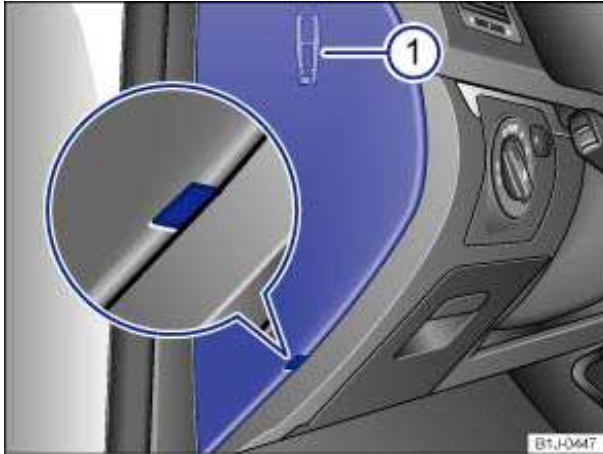

Fig. 191 On the driver side in the instrument panel: Fuse box cover with plastic tweezers 1 on the inside of the cover.
- Insert a flat object, such as a screwdriver from the vehicle tool kit, into the opening ⇒ fig. 191 (magnified view) and carefully lift off the cover.
- On the inside of the cover there are plastic tweezers (1) for removing and inserting fuses.